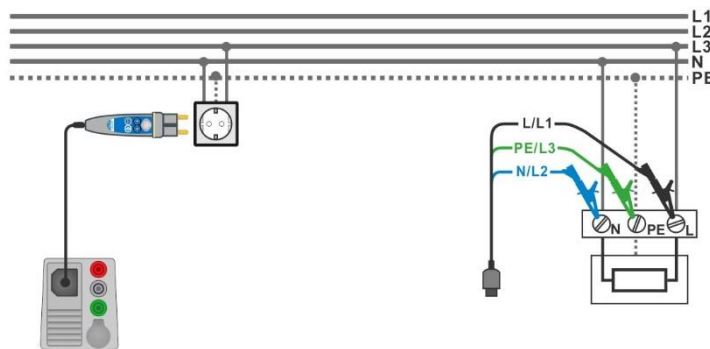

Figure 7.41: Connection of Plug commander and 3-wire test lead
- › Connect 3-wire test lead or Plug commander to the object under test, see **Figure 7.41**.